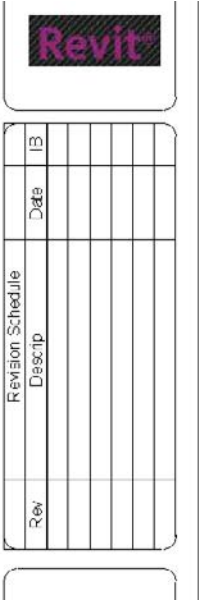

Figure 14.16
17. Use Figure 14.16 as a reference to move the schedule.